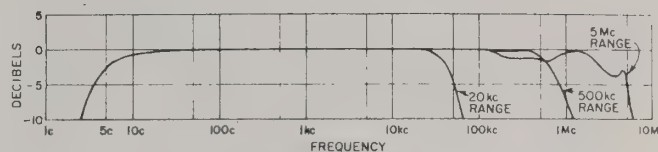

Figure 6. Typical Spectrum Level Characteristics for Type 1390-B Random-Noise Generator.
2.5 FREQUENCY SPECTRUM OF NOISE. The meaning of the term "frequency spectrum of noise" is illustrated in the following experiment. If a wave analyzer, such as the Type 1900-A, set to a 50-cps bandwidth, is used to analyze the output of the noise generator, a fluctuating meter reading will be observed at any setting of the analyzer. If an average value of this reading is taken over a period of time, this average value is an estimate of the level in that 50-cycle-wide band. This level, determined on any ranges of the noise generator, is essentially independent of the frequency setting of the Type 1900-A Wave Analyzer. Thus the spectrum in this region is uniform. The relative spectrum on the noise can be determined by the use of suitable analyzers to cover the full range of the principal energy regions of the noise. A typical result of such an analysis is shown in Figure 6 for the three bands of the Type 1390-B Random Noise Generator. When the spectrum is uniform over a broad band, as shown in Figure 6, it is commonly called "white noise". The "whiteness" always applies to a definite band only. For example, if the noise spectrum is uniform from 100 to 500 kc, the noise is referred to as white in that band.